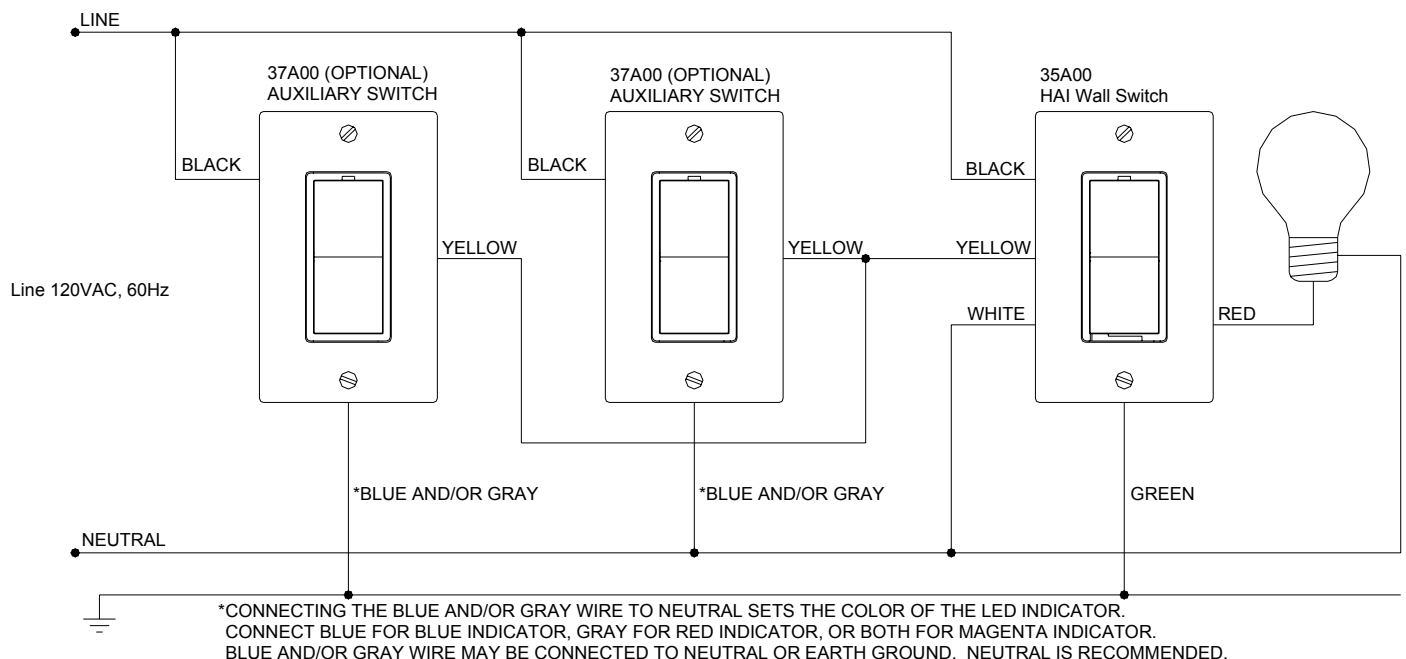

Figure 5 – Wiring Diagram
4. Remove $\frac{3}{4}$ ” of insulation from each of the wires on the HAI UPB™ Wall Switch. Install the HAI UPB™ Wall Switch by connecting wires per wiring configuration shown in Figure 5.
5. Install any optional HAI Auxiliary Switch per wiring configuration shown in Figure 5.